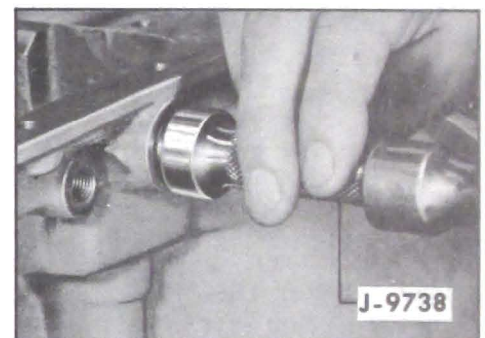

Figure 5-286
3. Install outer shift lever seal using J-9738. Make certain lip of seal points toward center of case. See Figure 5-286.